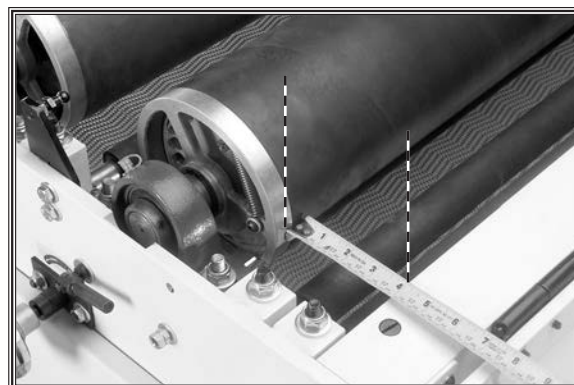

Figure 50. Measuring distance between edge of rear drum and the upper frame.
5. At both ends of the rear drum, measure the distance between the edge of the rear drum and the rear upper frame, as shown in **Figure 50**. The difference between these two measurements will tell you how close the drum is to being perpendicular to the feed direction (assuming that the conveyor roller is parallel to the machine frame).